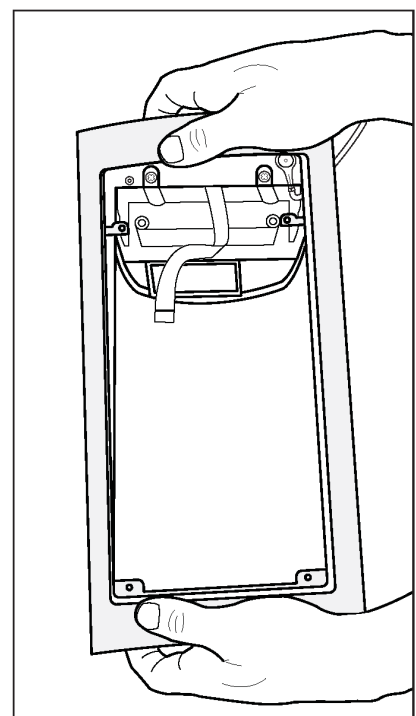

Figure 2-21. Glasswell Bezel Removal
2. Extracting the bezel mounting screws from each corner, then pull the bezel forward (See Figure 2-21).